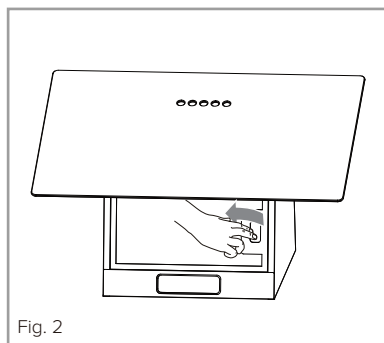

Fig. 2
- Open the hinged panel as shown in Fig. 2.